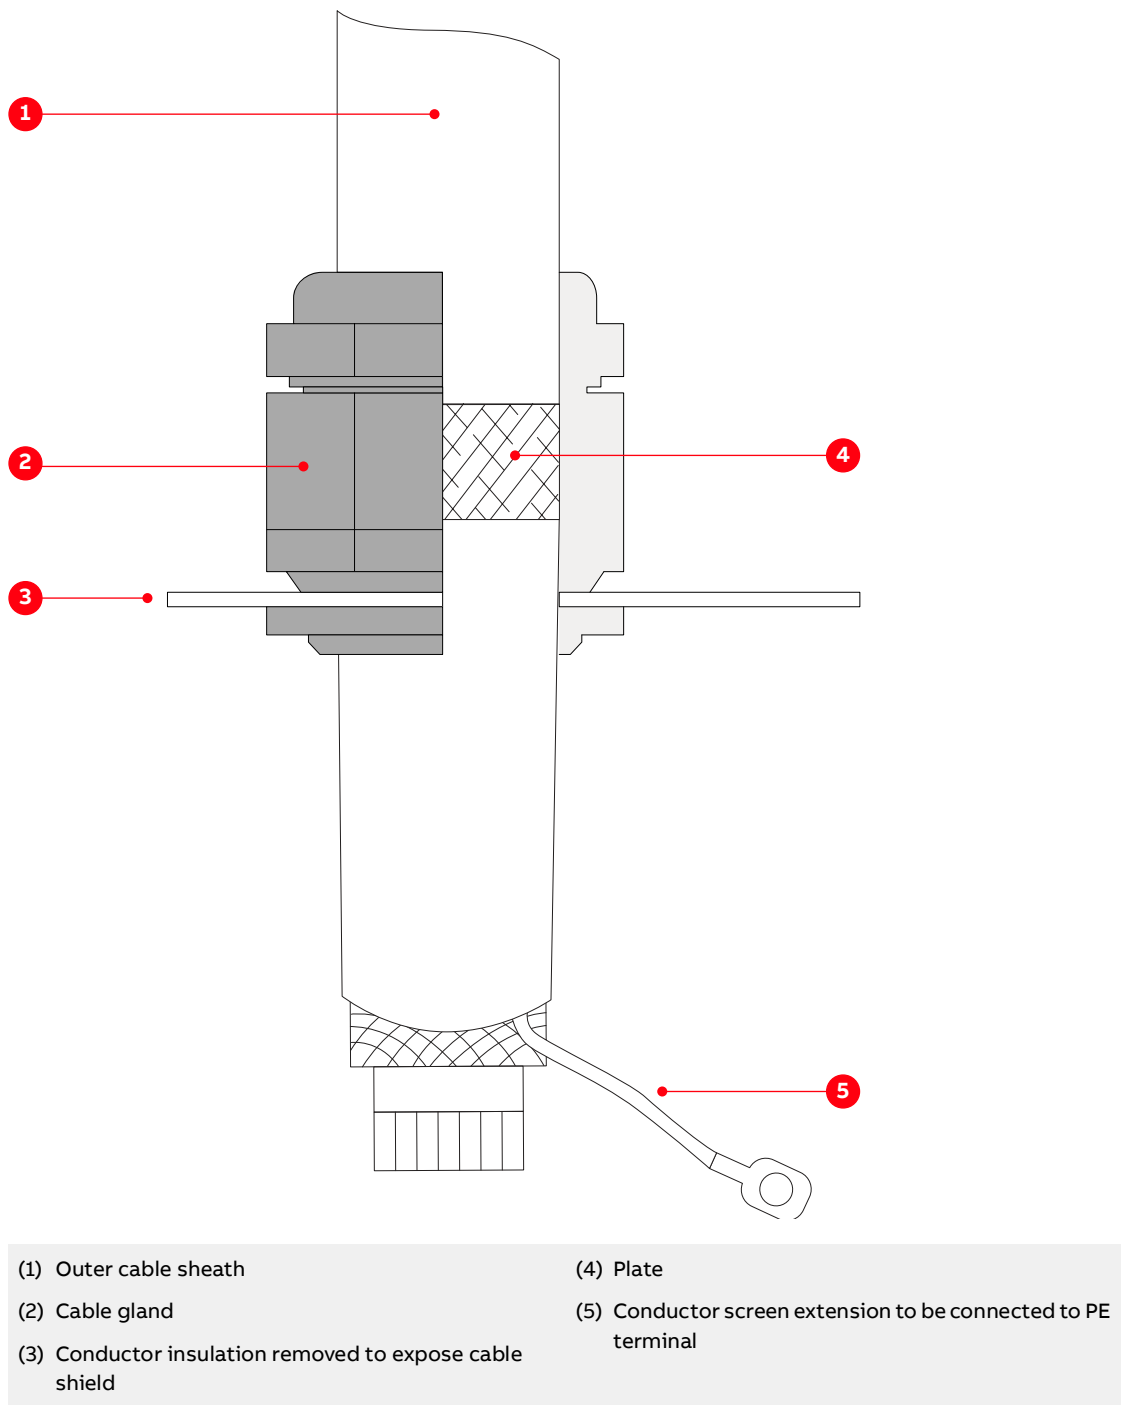

Figure 7-21: Preparing control cables for cable glands
- Prepare the cables with an outer cable screen for EMC bonding with the metal enclosure of the cabinet as illustrated in Fig. 7-21.